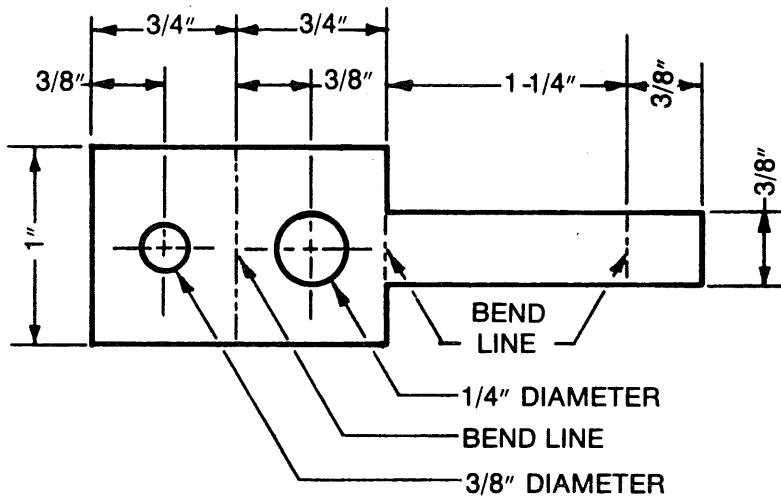

Figure 2-1. Test Fixture construction diagram.
- a. Using 50 mil aluminum, cut and drill the chassis according to Figure 2-1.